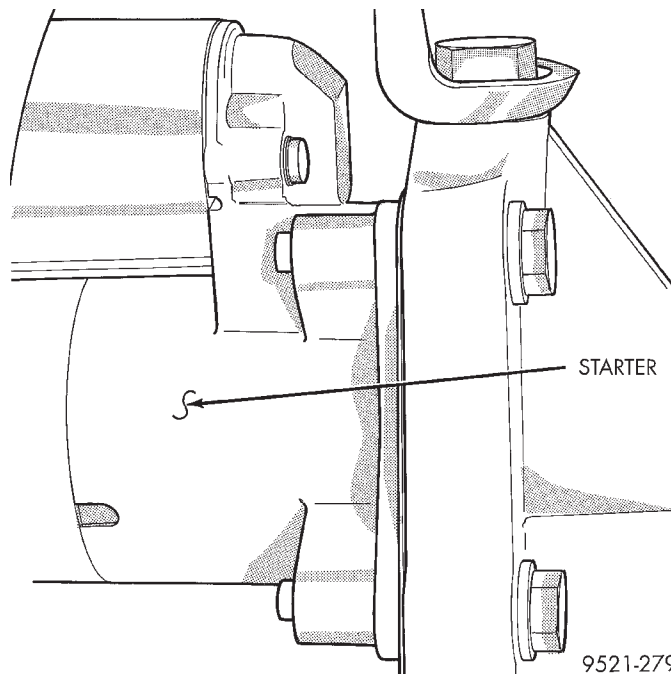

Fig. 49 Starter
(14) Remove engine oil filter.
(15) Remove starter and wiring (Fig. 49).